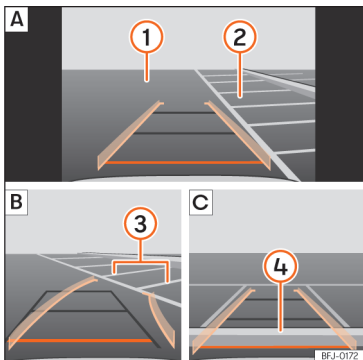

Fig. 156 Display on the infotainment system screen: parking with the reverse assistant.
Key to the >>> **Fig. 156**:
- Stop the vehicle in front of the parking space >>> **Fig. 156** **2** **A**.